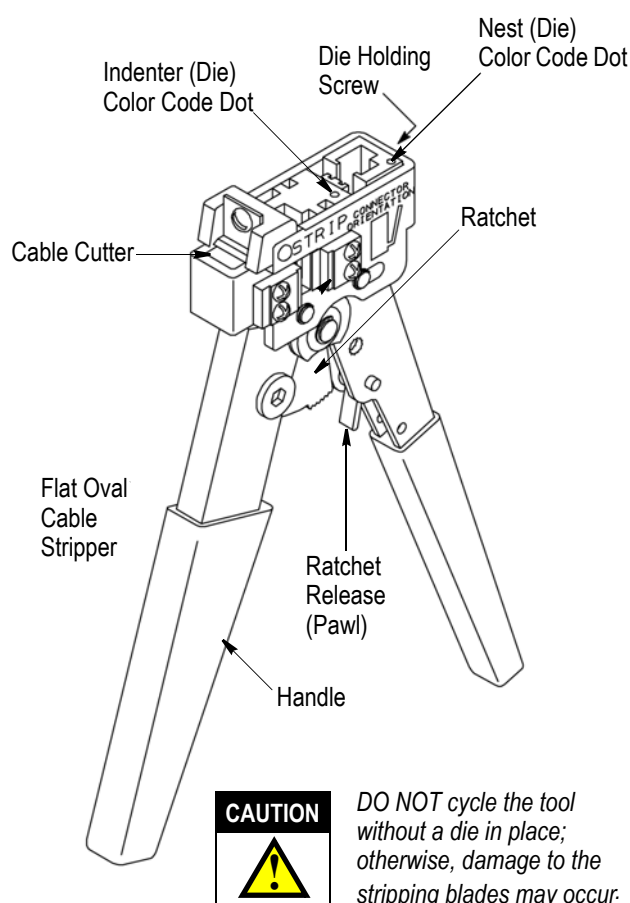

Figure 1
Modular Plug Hand Tools 231652-[] (shown in Figure 1) are designed to terminate modular plug connectors onto stranded or solid, shielded or unshielded flat oval cable or round cable. The tool also cuts and strips unshielded flat oval cable. Other cable must be prepared by separate tools.
2. DESCRIPTION (Figure 1)